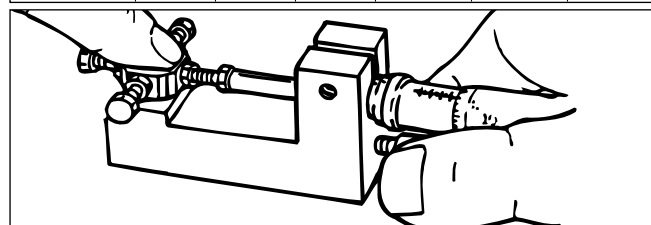

FIGURE 2-13, Sensing Unit Setting Fixture
5. Adjust sensing screws in sensing body so that size is somewhat smaller than desired bore size. Insert sensing unit into setting fixture (see Figure 2-13).
6. Line up one of four screws with micrometer spindle and tighten clamp screw on setting fixture. As you tighten clamp screw, press downward on sensing unit as shown (refer to Figure 2-13). Downward force assures that sensing unit is flat against frame of setting fixture. This is necessary for best accuracy.